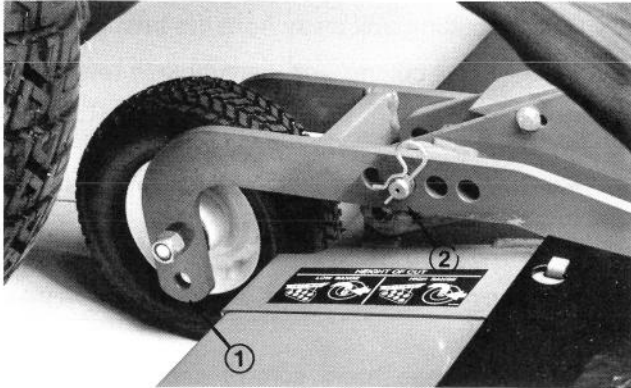
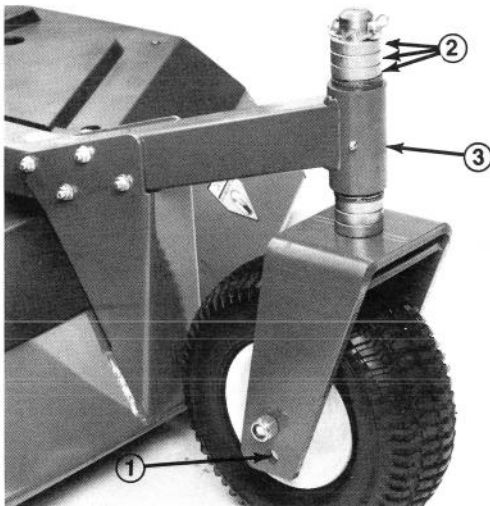

Figure 67
Figure 68
1. Adjust cutting unit to highest height—of—cut. Position castor wheel axles in lower castor fork holes (Fig. 67, 68). If checking front cutting unit, reposition two rear castor's clevis pins to highest height—of—cut setting (Fig. 67). On the front castors, move all castor spacers to the underside of the castor arms (Fig. 68). To check outboard units, move all castor shaft spacers to the underside of the castor arms and castor wheel axles to lower castor fork holes.